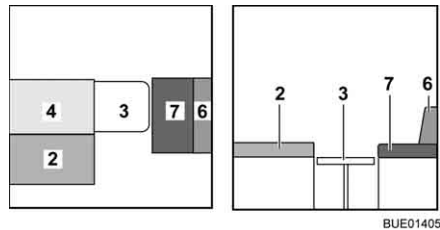

Fig. 149 During conversion
- Place the back cushion (Fig. 149,4) next to the seat cushion (Fig. 149,2).